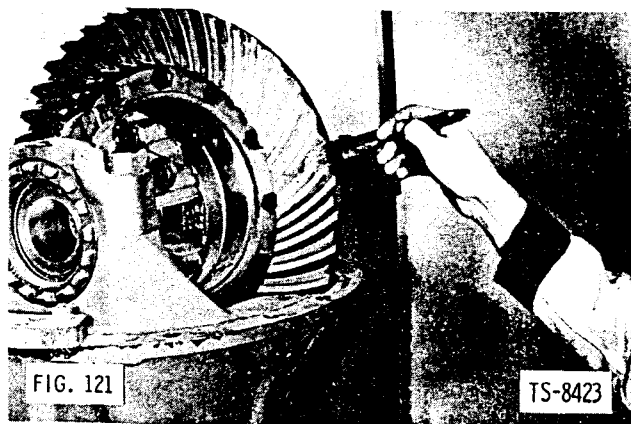

FIG. 121
12. Check ring and pinion gear for proper tooth contact. Paint ring gear teeth with a mixture of red lead and linseed oil (Fig. 121). When ring and pinion gears are rotated, the red lead is squeezed away by the contact of the teeth, leaving bare areas the exact size, shape and location of the contacts. As a rule, painting about 10 or 12 teeth is sufficient for checking purposes. Sharper impressions may be obtained by applying a small amount of resistance to the ring gear with a flat steel bar and using a wrench to rotate the pinion. Gears should be rotated, under slight load, until ring gear has turned at least one revolution in both directions. Check tooth contact pattern on drive side (convex side) of ring gear teeth. Coast side will automatically correct when drive side pattern is correct.